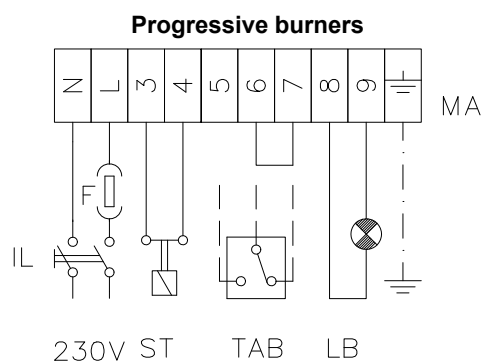

Fig. 10
- 9 the nozzle supply pressure is already factory-set and must not be changed. Only if necessary, adjust the supply pressure as follows (see related paragraph); insert a pressure gauge into the port shown on Fig. 14-Fig. 15 and act on the pump adjusting screw **VR** (see Fig. 13) as to get the nozzle pressure at 20bar (Bergonzo nozzles - see diagram on Fig. 10).